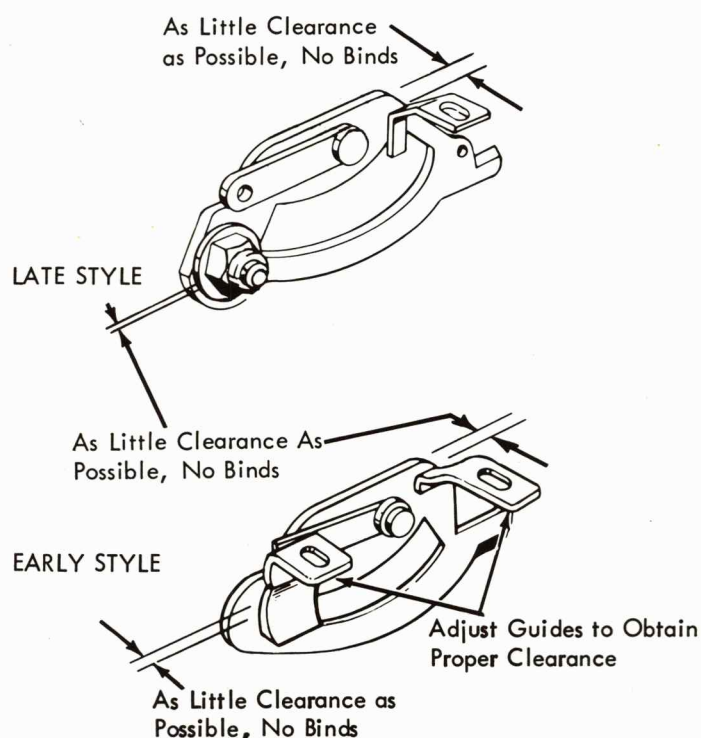

FIGURE 51. Rotate Detent Guides
6. **Rotate Detent** - Adjust the front and rear guides so that the rotate detent will operate freely with no side play (Fig. 51).